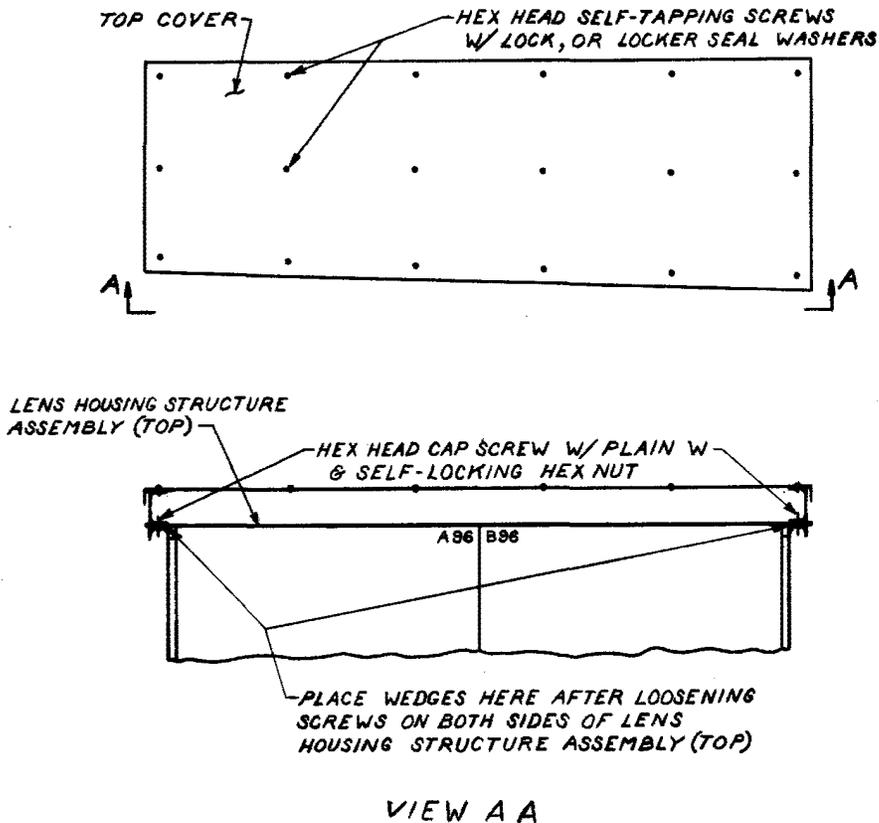

Fig. 4 - Top Cover
**Note:** Should the elements offer resistance, it will be necessary to remove the top cover of the antenna (see Fig. 4) and then loosen the cap screws securing the lens housing structure assembly to provide sufficient clearance for the removal of the elements (see view A-A of Fig. 4).